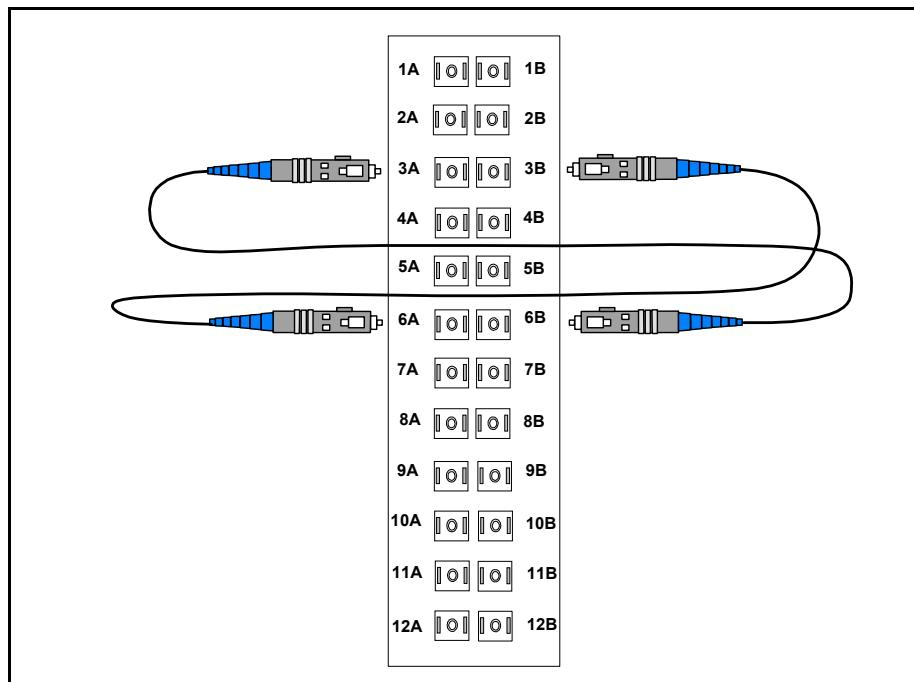
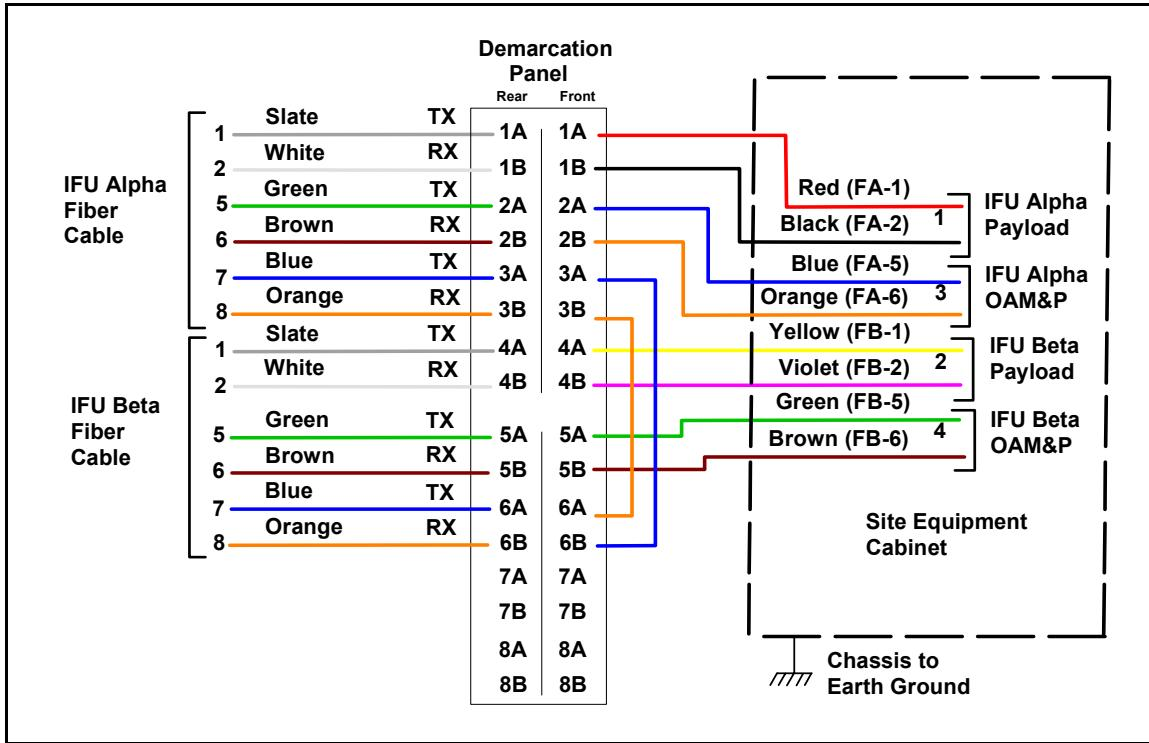

Figure 3-7. Typical SONET OC-3 Demarcation Jumper Locations
Figure 3-8. Typical SONET OC-3 Site Schematic
- 3** Connect the jumpers to the front of the demarcation patch panel as shown in Figure 3-7 ,Table 3-5, and Figure 3-8.